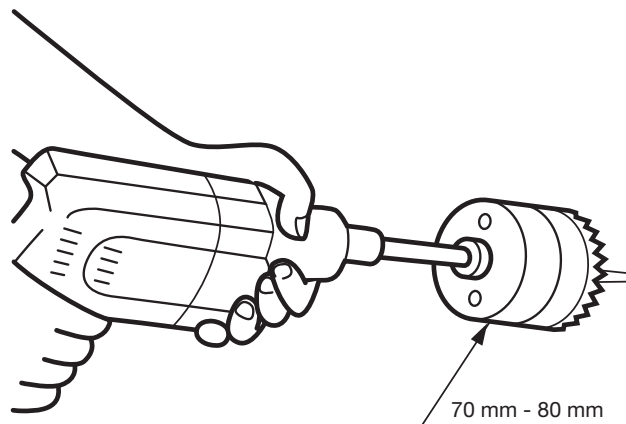

Fig. 2
2. Drill the hole for the flue pipe. Use a hole saw with a diameter of 70~80 mm (see Fig. 2). The opening on the interior side of the wall must be a little higher than the opening on the outside in order to create a slight gradient in the feed-through and flue pipe after